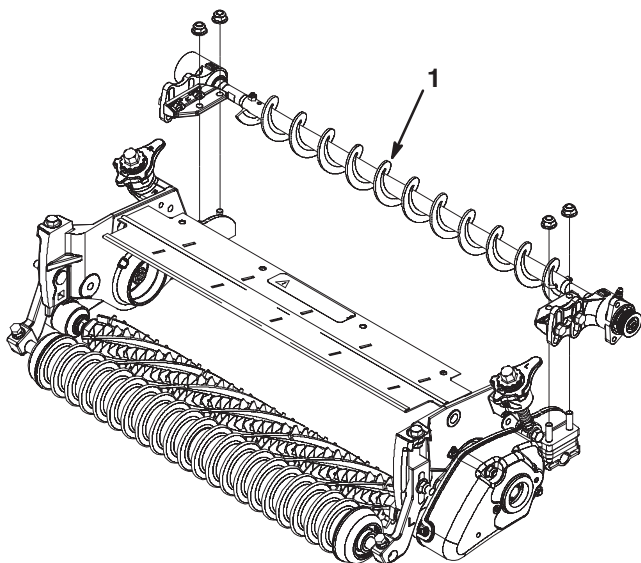

Figure 22
9. Position the roller brush assembly mounting brackets onto the roller bracket bolts (Fig. 22). Secure the brush assembly mounting brackets to the cutting unit side plates with the nuts previously removed.